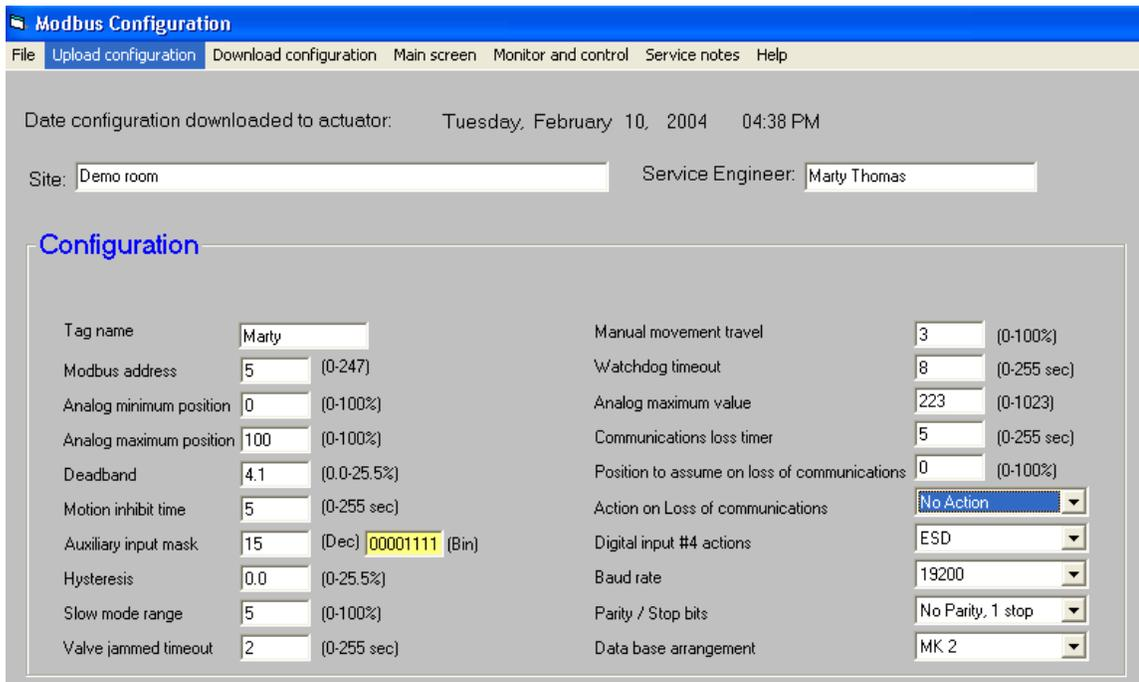

Fig 6 Configure Actuator Screen
Switching Database Format Window this will set the database format to the new MK 2 format. Clicking the Yes button will change the format, and then follow the on-screen instructions. You'll need to cycle power to the actuator for this setting to take. Note: This tool provides a means to change the database format to the MK 1 design. (See Fig 6 - Data Base Arrangement) If this is done in error, restarting the program provides the means to change the database back to MK 2 format.
7.1.2 Configuration Screen clicking on the Configure actuator toolbar item will open the *Configure actuator* screen. See figure 6. This screen can be used to do on-line configuration of the modbus module.